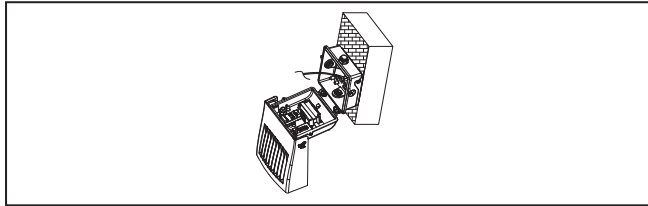

Figure 6.
8. Hang the luminaire on the mounting hooks. (Figure 6)